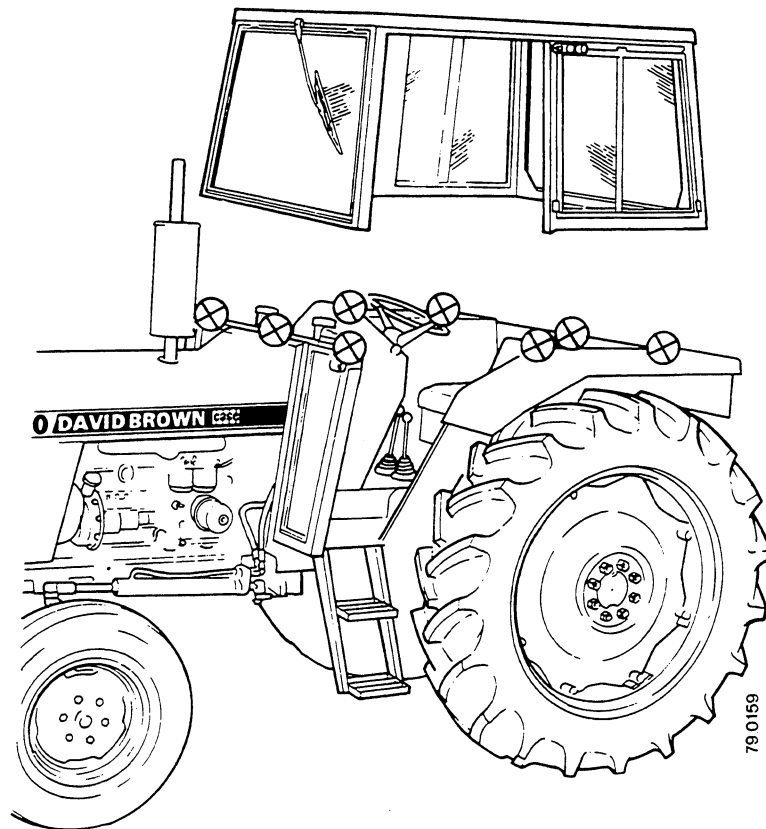

FIGURE 7. TOP SECTION OF CAB REMOVED
11. Remove the eight setscrews G which hold the top section of the cab in position (See Figure 7).